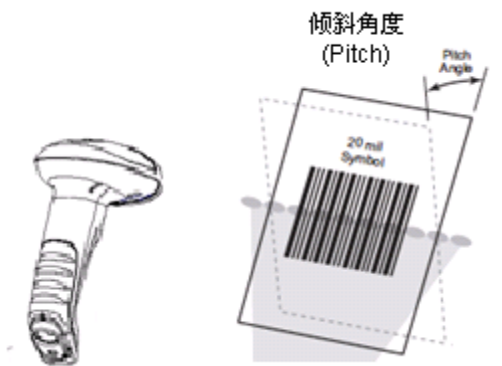

Fig. 1-13
- ◇ Pitch: $\pm 55^\circ$, 0° Roll and 0° Skew (Fig. 1-13)